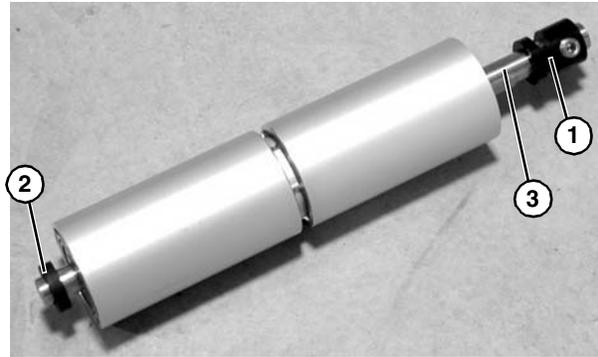

Figure 68
8. Remove the tension pulley locking collar (**Figure 68, item 1**), spacer (**Figure 68, item 2**) and pulley shaft (**Figure 68, item 3**) from the roller pulley shaft assembly.